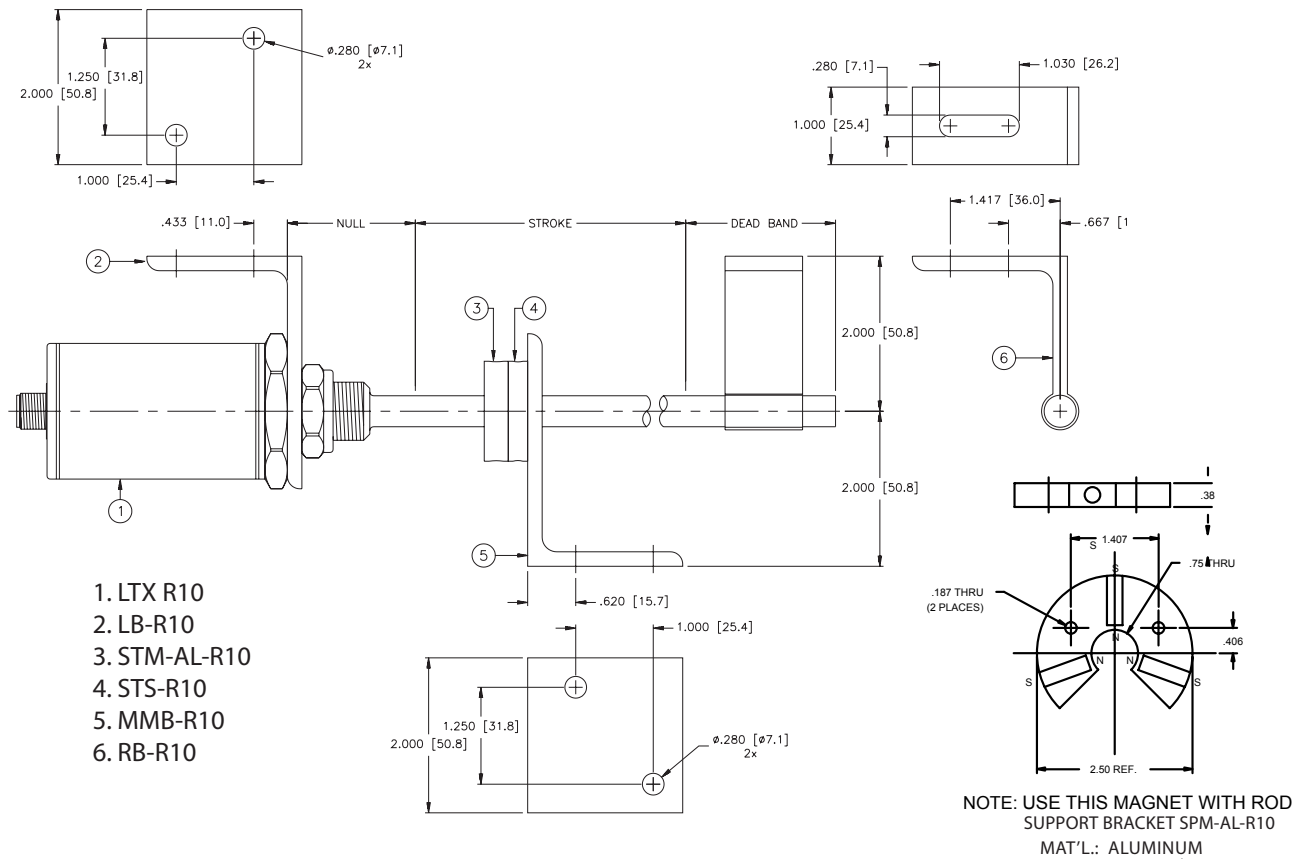

Figure 2-1: Mounting the LDT
Do not use the black aluminum cover of the head assembly or connector to tighten the LDT within the bracket (see Figure 2-1). This may damage the LDT and will void your warranty. To tighten the LDT within the bracket, use the 1.75" hex mounting base on the head assembly.
- A non-ferrous spacer must be used to separate the magnet assembly from the head of the piston rod. See Figure 2-1.
Do not use the black aluminum cover of the head assembly or connector/cable nut to tighten the LDT within the bracket (see Figure 2-1). This may damage the LDT and will void your warranty. To tighten the LDT within the bracket, use the 1.75" hex mounting base on the head assembly.